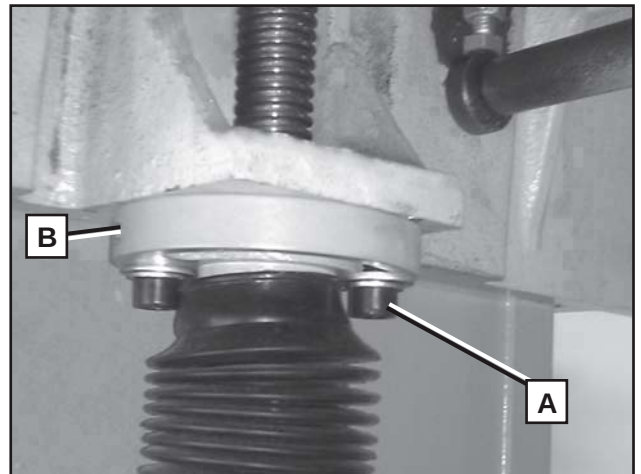

Figure 54. Table elevation screw housing bracket.
6. Use the 6mm hex wrench to loosen the table elevation housing bracket cap screws ((A) underneath the table) for that side of the table (see **Figure 54**).